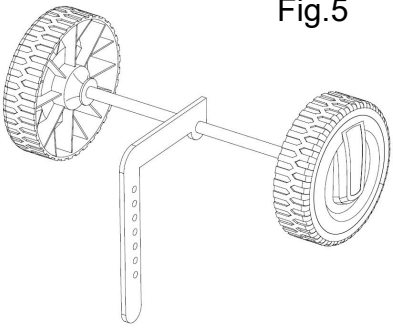
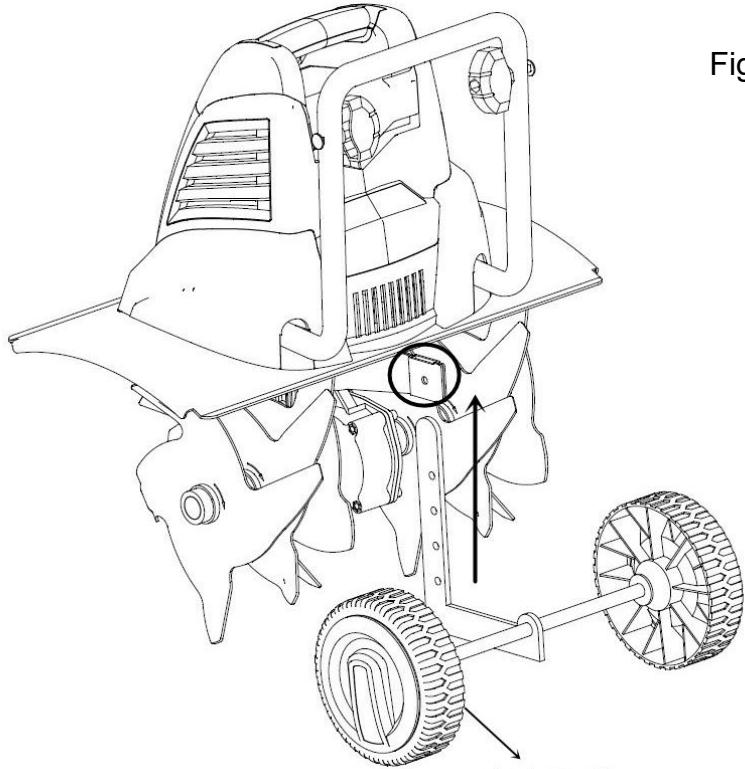
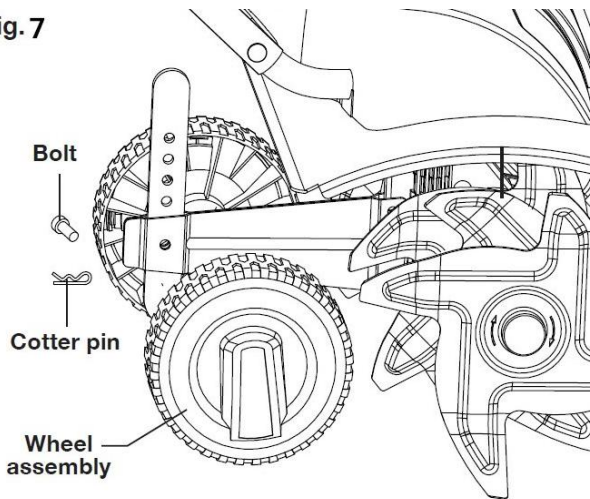
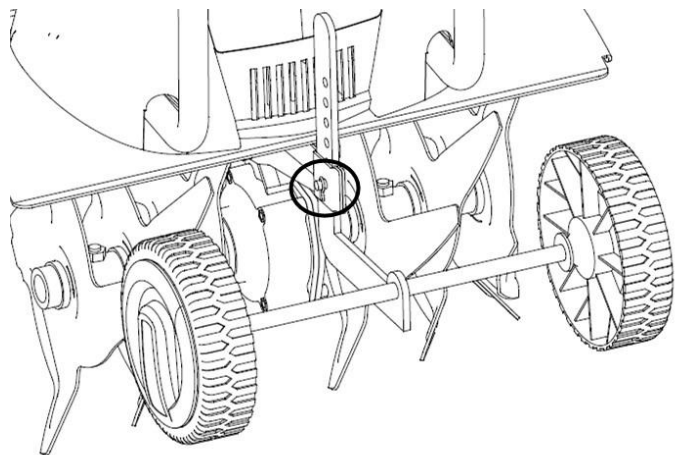

Fig.6
Fig.7
Fig.8
Fig.9
- d) Adjusting the height. Adjust and align the wheel setting hole to the bracket hole, then insert the bolt and secure it with the pin(Fig.6 & Fig.7 &Fig.8 &Fig.9)